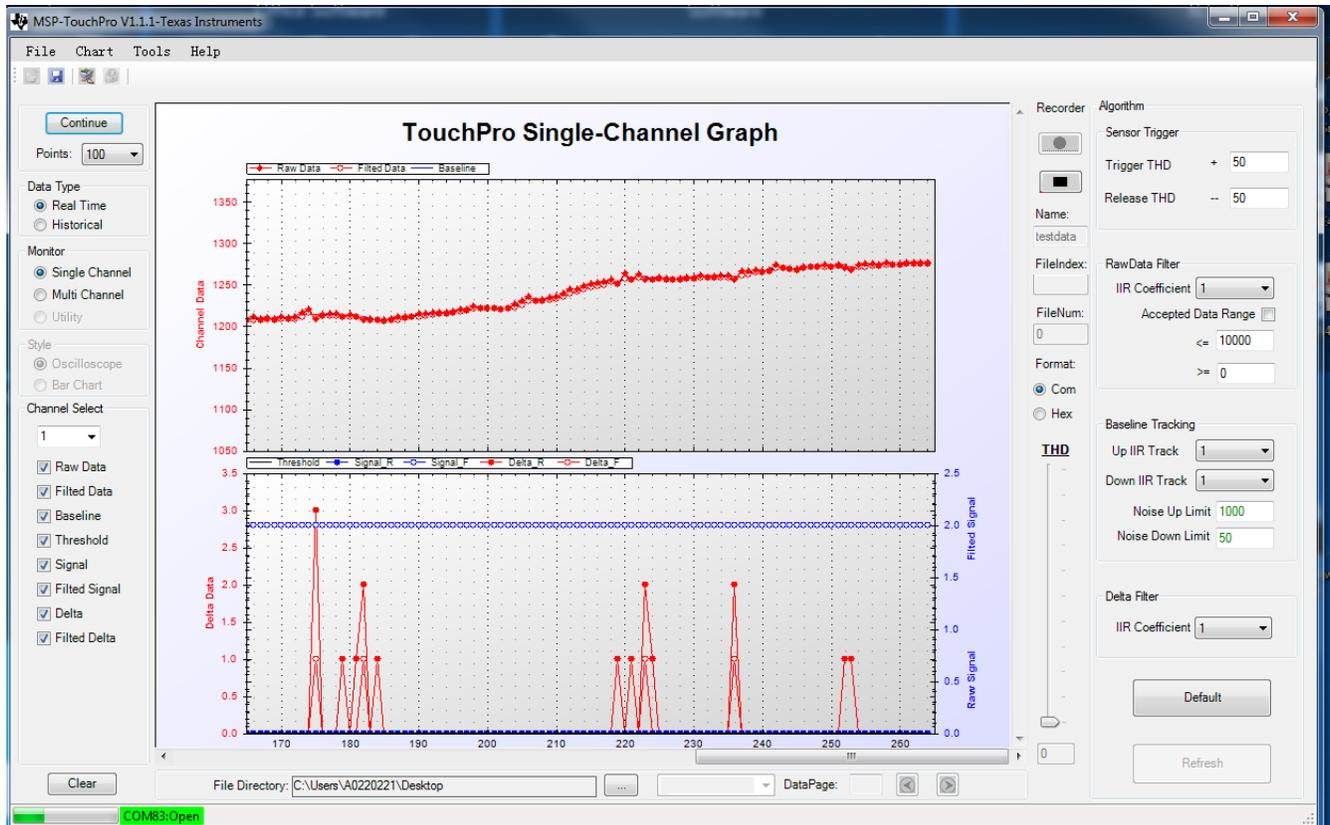

Figure 12. Collecting and Saving Raw Data
3. Click the Record button (see Figure 12).